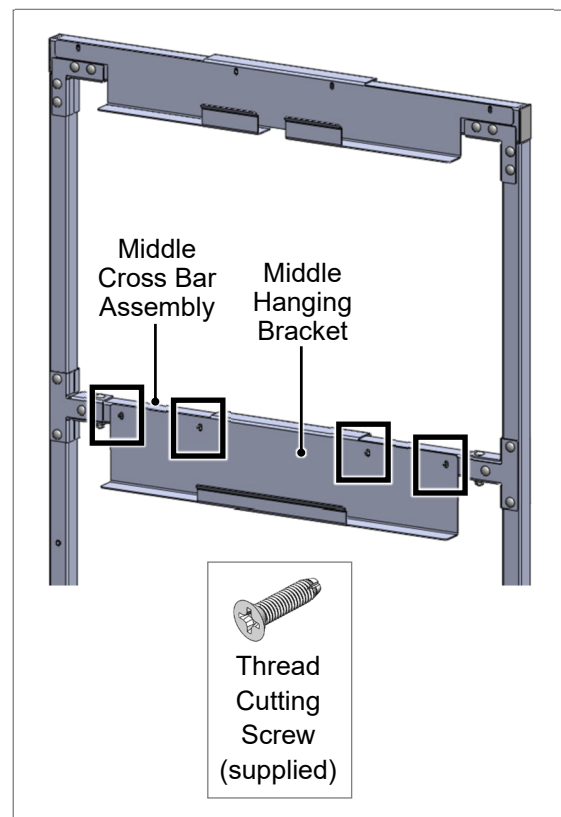

Fig 11. Attach the Middle Hanging Bracket
9. Attach the Middle Hanging Bracket to the Middle Cross Bar Assembly using four (4) Thread Cutting Screws (Fig 11).